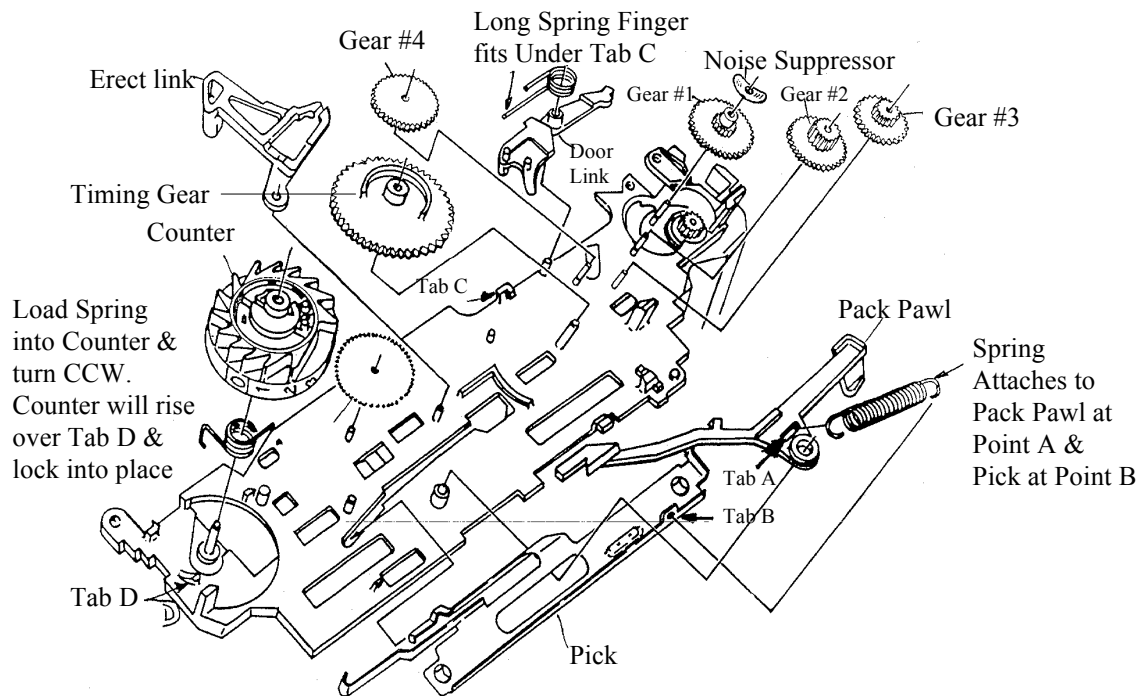

Figure 4-14c Gear Train Reassembly
**CAUTION:** IT IS EXTREMELY IMPORTANT THAT ALL PARTS ARE PROPERLY ALIGNED AFTER YOU HAVE REASSEMBLED THEM. THE POSITION OF THE WIREFORM SWITCHES IS ESPECIALLY CRITICAL. IF THE PARTS ARE NOT PROPERLY INSTALLED, THE CAMERA WILL NOT OPERATE CORRECTLY. BE CERTAIN THAT YOU REASSEMBLE ALL GEAR TRAIN PARTS ACCORDING TO THE INSTRUCTIONS. REFER TO FIGURES 4-14c AND 4-14e TO DOUBLE CHECK YOUR WORK.
- k. Position the Door Link Spring on the Door Link and carefully install them on the Gear Train. The upper spring arm should be locked under the tab as indicated in Figure 4-14c. The Door Link must be in the up position. If it isn't, push down on the arm of the Door Latch to raise the Door Link.